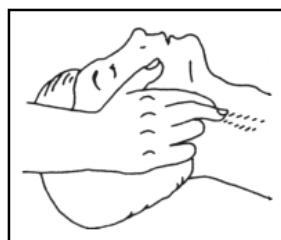
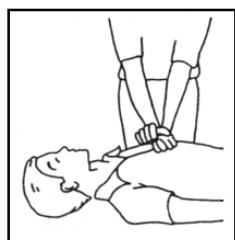
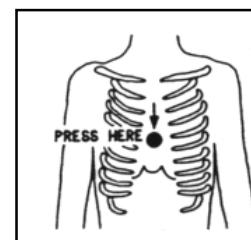

Figura 3
Figura 4
Figura 5
- Check carotid pulse (**Figura 3**); if pulse is absent, begin artificial circulation (**Figura 4**) depressing sternum 1 1/2" TO 2" (**Figura 5**).